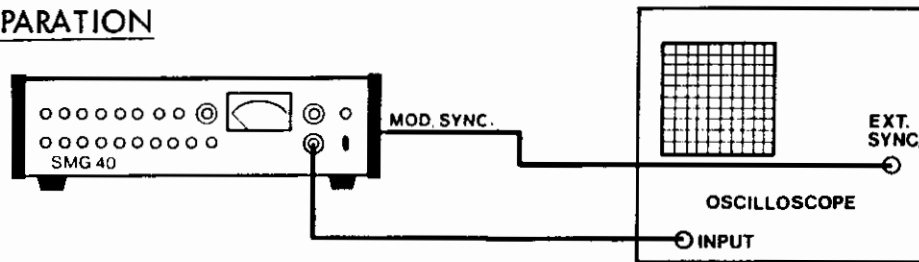

Fig. D4. Separation, Pilot Phase, Residual and Noise Test Setup.
Use the same measuring setup as in SEPARATION, see Fig. D4.
1. Same measuring setup as in SEPARATION (see Fig. D4.).